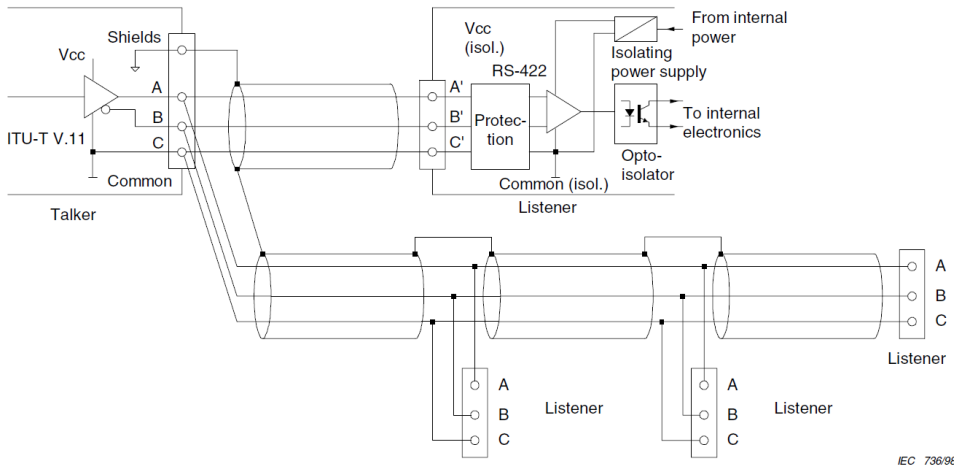

Figure 10: IEC 61162-2 Circuits
- One talker (Tx side, commonly a sensor such as GPS) may be connected to one or more listeners (Rx side, e.g. displays or computer systems such as ECDIS). The circuit looks as shown in *Figure 10: IEC 61162-2 Circuits* on page 16.